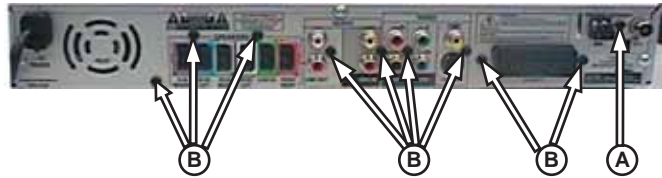

Figure 3-3
- 1) Loosen 1 screw A (see Figure 3-3) to remove the Tuner Module (pos 1040).
- 2) Loosen 9 screws B (see Figure 3-3) and 4 screws (see Figure 3-4) to remove MONO Board.
- 1 snap hook each on the left & right side (pos 161).
- 2 snap hooks on the bottom side (pos 161).